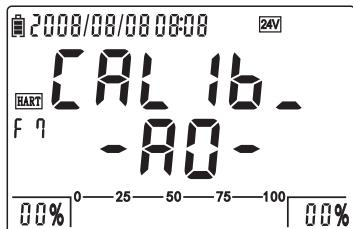

Figure 4–5–7–3: AO calibration entrance
c. After calibration, press to go to the figure 4–5–7–1.